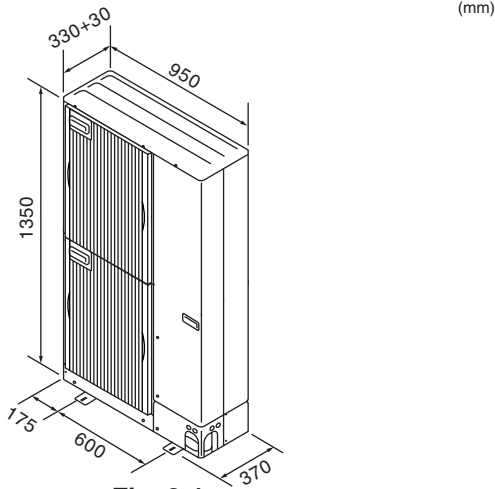

Fig. 3-1
3.3. Outline dimensions (Outdoor unit) (Fig. 3-1)